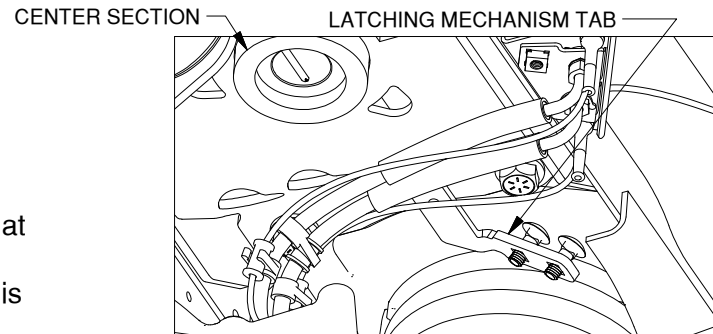

Figure D2: Looking up at center section
2. **Install bolts.** Retract the latching mechanism by pulling on the tab with the square holes and pushing it toward the cab. From the top down, insert a 3/8" carriage bolt in each of the square holes in the latching mechanism, see Figure D2.